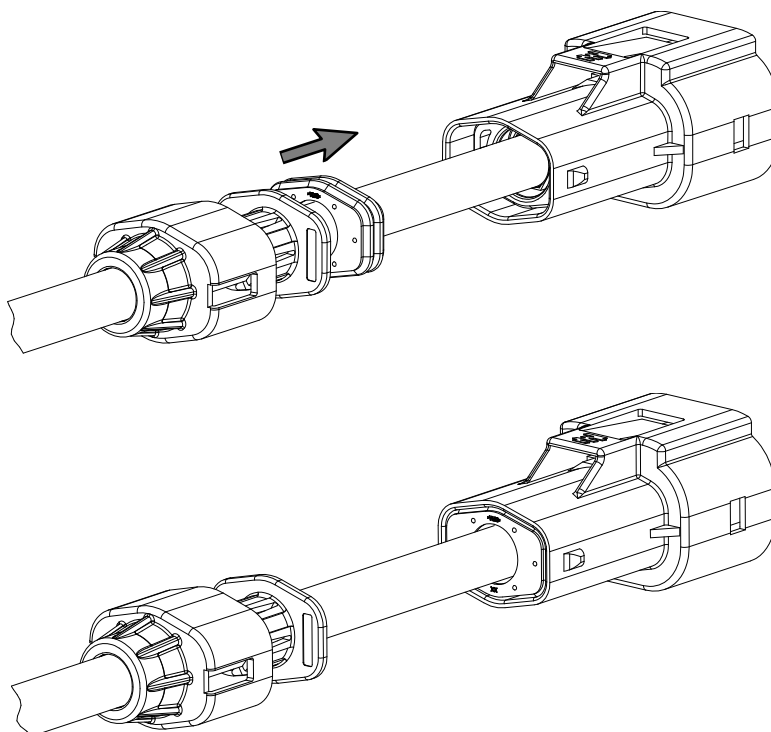

Figure 16
15. Slide the cable seal forward on the cable and into the cable exit end of the connector assembly until it stops against the spacer as shown in Figure 16.